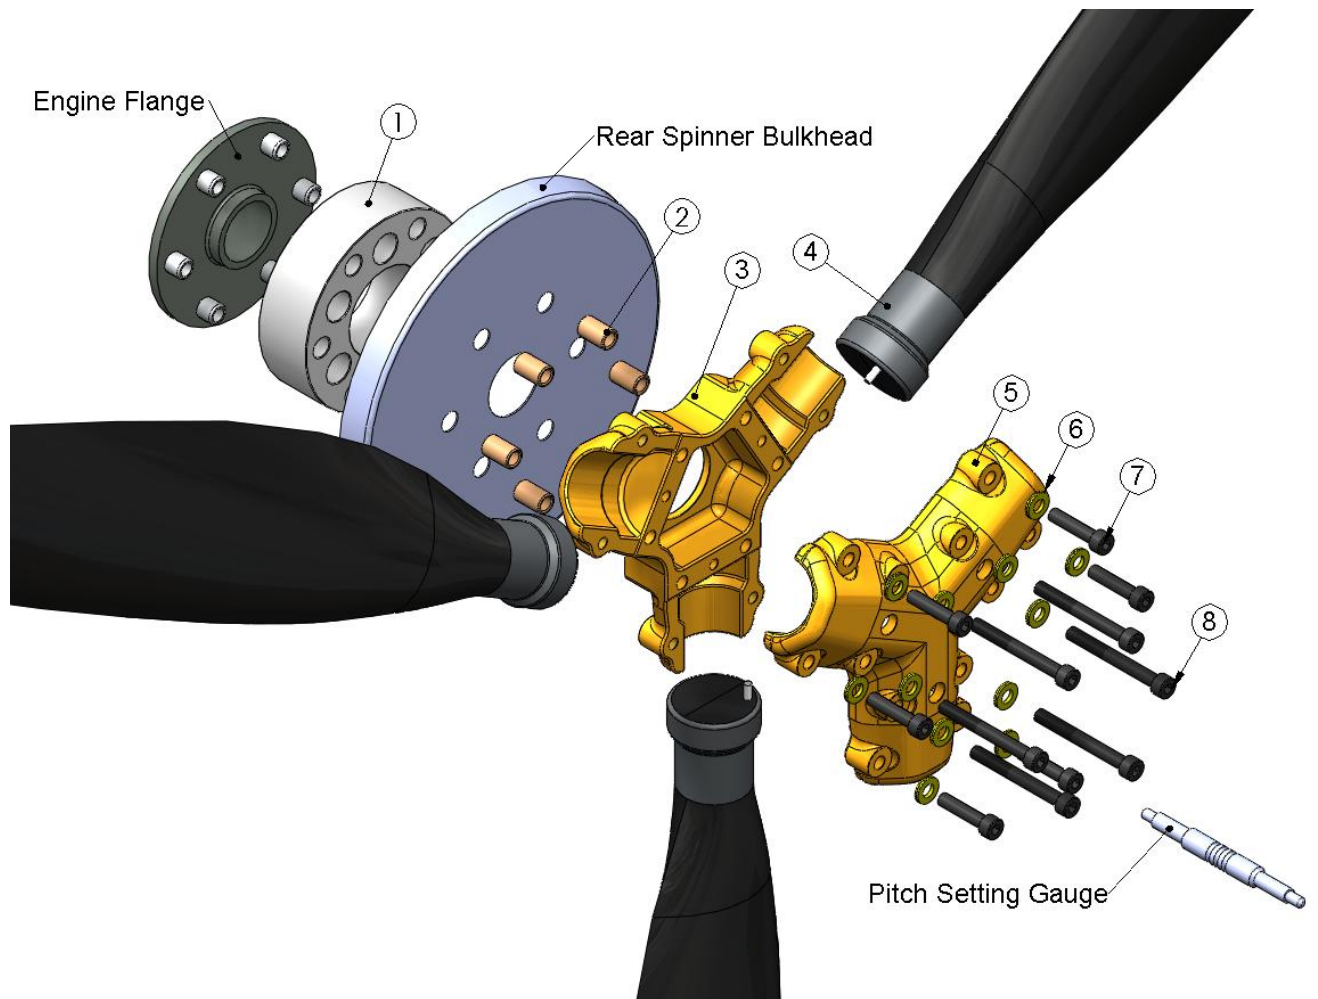

FIGURE 1. 3B0R5 / R68C PROPELLER ASSEMBLY
1. Refer to **Figure 1** for views of the two piece hub, blade, and pitch setting gage. Place the hub mount half flat on a suitable work surface with the engine side down.
11. *Be certain that the aircraft magneto switch is "OFF" and that all magnetos are grounded any time the propeller is handled.* Chock the aircraft wheels to prevent movement. Clean dirt and oil residue from the engine flange. Refer to **Figure 1** for views of the spacer, two piece hub, blade and pitch setting gage.
12. Place rear spinner bulkhead (if used) and the assembled propeller, as shown in **Figure 1**, on the propeller mounting flange.